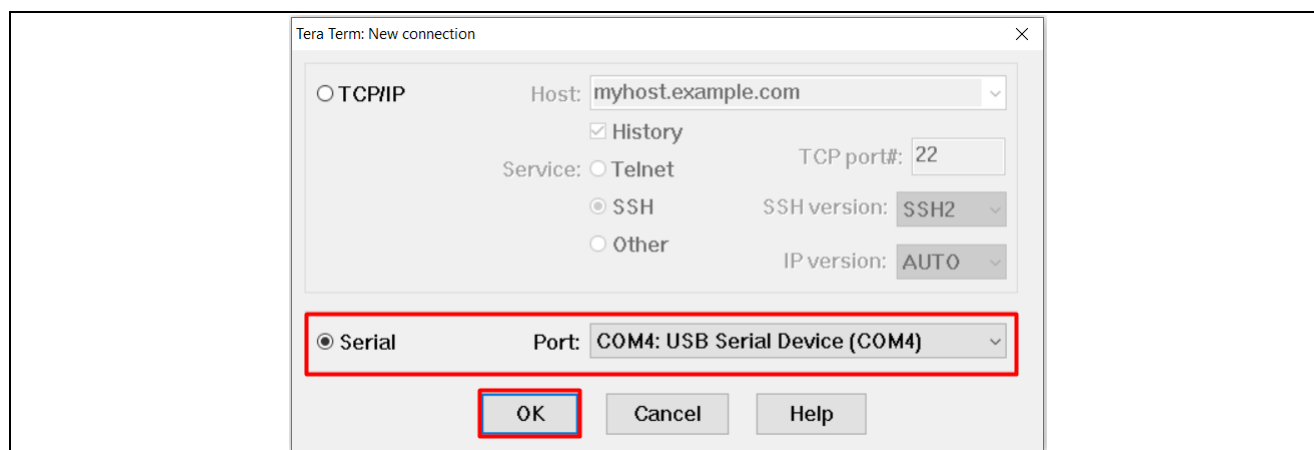

Figure 91. Open the USB COM Port
1. Launch Tera Term and choose the USB Serial Port (COM number may be different for your setup), as shown in Figure 91. Click **OK**.